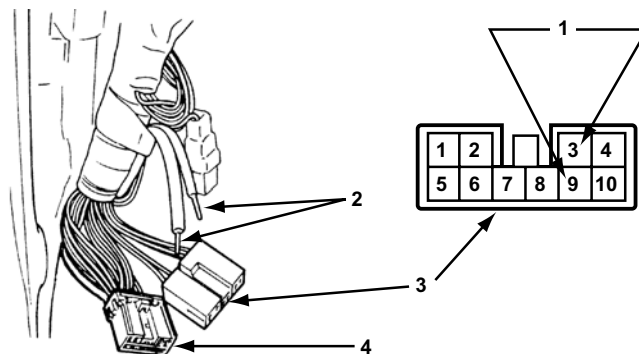

Figure 15-56 SVX airbag
- 1992–1997 SVX (Figure 15-56)
1. With the key on and the engine off, install either diagnostic terminal into pin 9 of the airbag (SRS) diagnostic connector. The connector is located in the left kick panel area (Figure 15-56).
1. With the key on and the engine off, install either diagnostic terminal into pin 9 of the airbag (SRS) diagnostic connector (Figure 15-56).
1. With the key on and the engine off, install either diagnostic terminal into pin 1 of the airbag (SRS) diagnostic connector (Figure 15-56).
1. With the key on and the engine off, install either diagnostic terminal into pin 2 of the airbag (SRS) diagnostic connector (Figure 15-56).